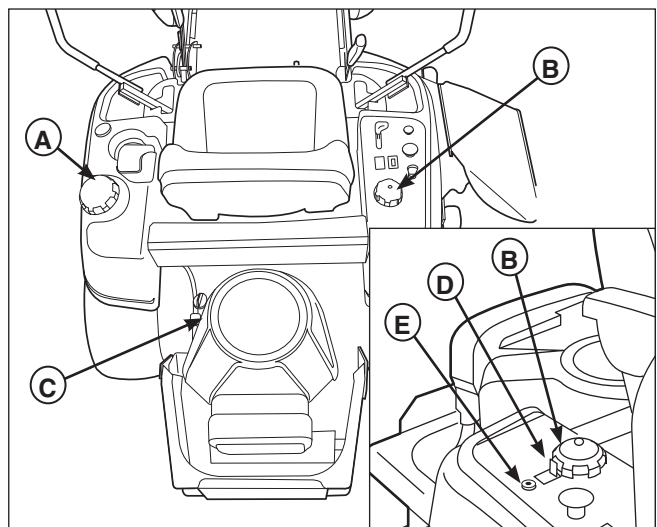

Figure 21. Maintenance
2. Remove the fuel cap (see A, Figure 21).
3. Using a pliers, open and slide hose clamps from fuel filter (C, Figure 21).
2. Before removing the reservoir cap, make sure the area around the reservoir cap and fill neck of the reservoir is free of dust, dirt, or other debris. Loosen the locking capscrew (E, Figure 21) securing the locking tab (D), slide the lock tab back, and remove the cap (B).